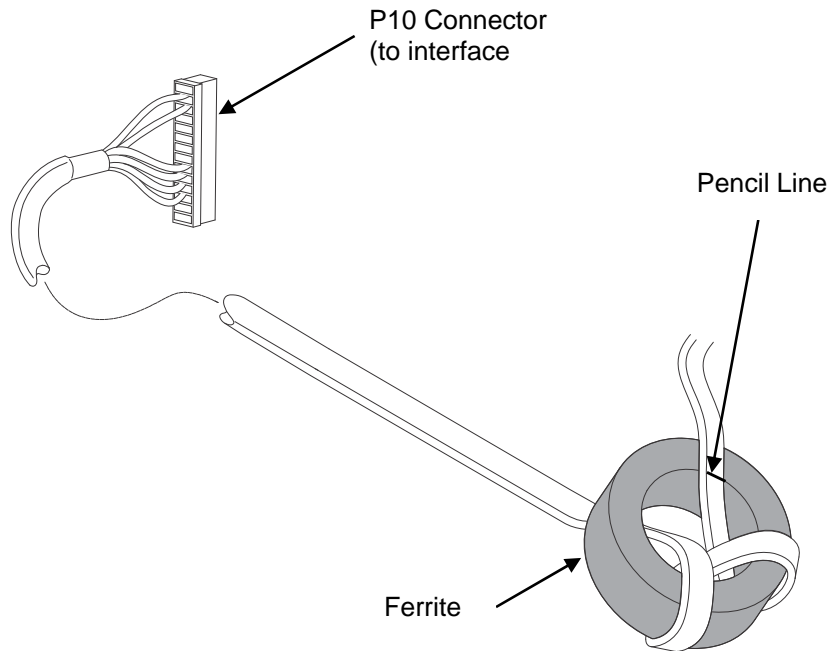

Figure 5 Wrapping the Power/Data Cable Around the Ferrite
8. Using the P10 connector end of the power/data cable, insert the cable through the ferrite. (Figure 5)